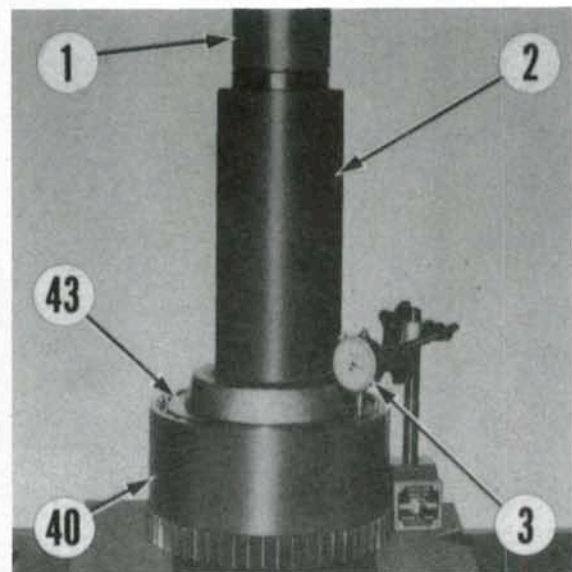

Fig. 46—Use a dial indicator to measure clutch plate clearance. Refer to text for adjustment procedure.
Support output shaft and clutch assembly in a press as shown in Fig. 46. Using a sleeve (2) that will fit over the clutch return plate (43), compress the clutch plates against the piston actuating housing while measuring the movement of the return plate with a dial indicator as shown in Fig. 46. Return plate movement (clutch plate clearance) should be within specified range of 0.047-0.071 inch (1.2-1.8 mm). To adjust clearance, tighten or loosen retaining nut (27—Fig. 41) as necessary. Stake the nut to the shaft after correct clearance is obtained.